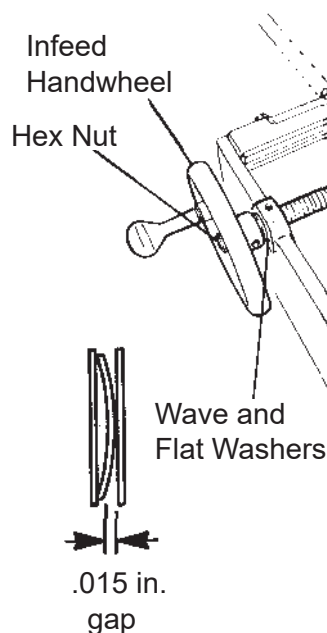

FIG. 13B
- C. Check for .015 in. [.04mm] gap between the wave washer and the flat washer. See FIG. 13B. Readjust the hex lock nut if necessary.